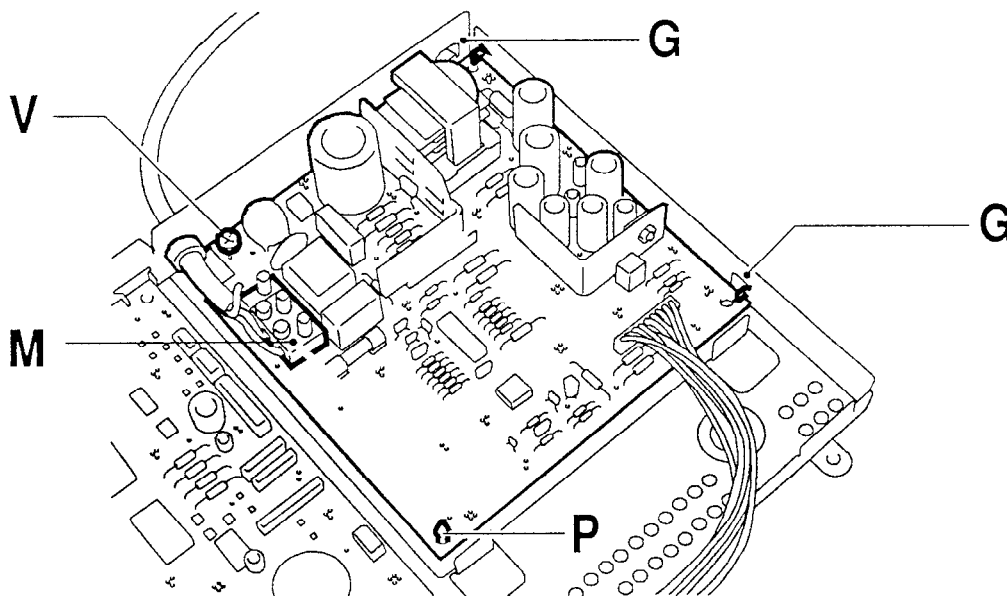

Fig. 7-21
3) Disconnect the power supply cable from the terminal board **M**, then unscrew the screw **V**, compress pin **P** and remove the power supply board from their guide **G** (Fig. 7-21):
**Caution:** While reassembling, ensure that the board is properly inserted in the related guides **G** (Fig. 7.21).